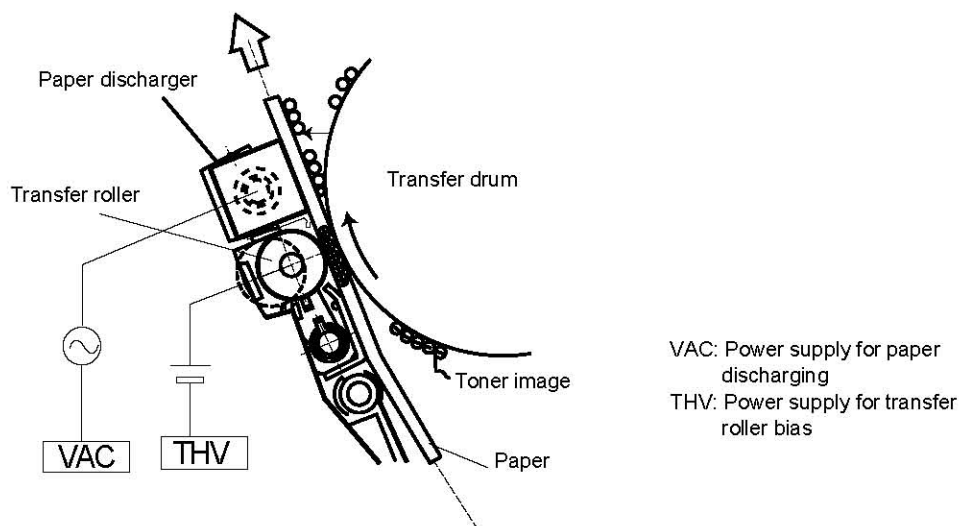

Fig. 4-21
(2) Second Transfer Process (Refer to Fig. 4-21.)